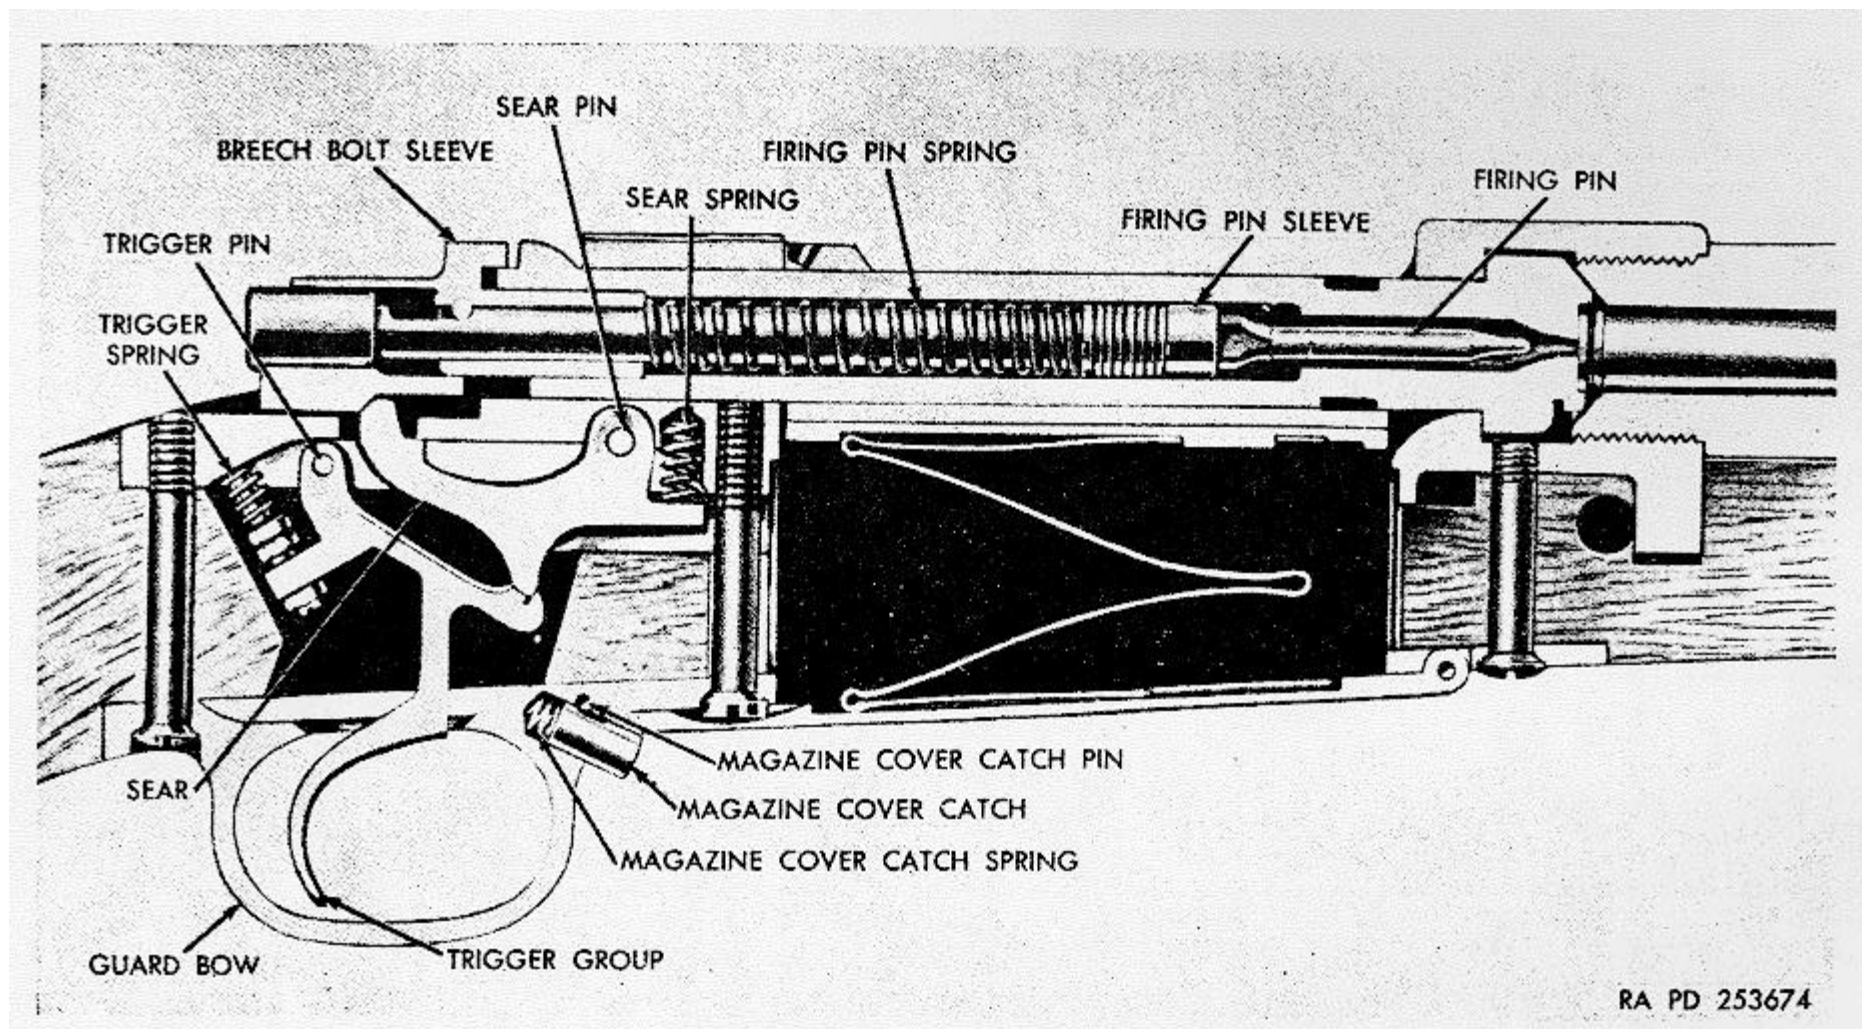

Figure 64. Cal..30-06 Winchester rifle model 70 (special match grade)-cross section.
- (1) Depress the bolt sleeve lock.
- (2) Turn the breech bolt sleeve assembly counterclockwise and remove the firing pin and sleeve (fig. 64) from the bolt.
- (3) Put safety lock in FIRE position (par. 15e).
- (4) Depress firing pin sleeve slightly and turn firing pin to aline rectangular slot of the sleeve with the firing pin. Remove sleeve and firing pin spring from pin.
- (5) Unscrew firing pin stop screw from sleeve and withdraw sleeve from the firing pin body.
- (6) Slide extractor clockwise on bolt to remove extractor from bolt lug. Slide the